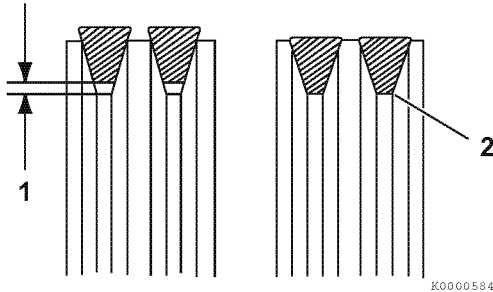

Figure 8-14
5. Inspect the condition of the V-belt. There must be clearance (1, **Figure 8-14**) between the V-belt and the bottom of the pulley groove. If there is no clearance (2, **Figure 8-14**) between the V-belt and the bottom of the pulley groove, replace the V-belt.